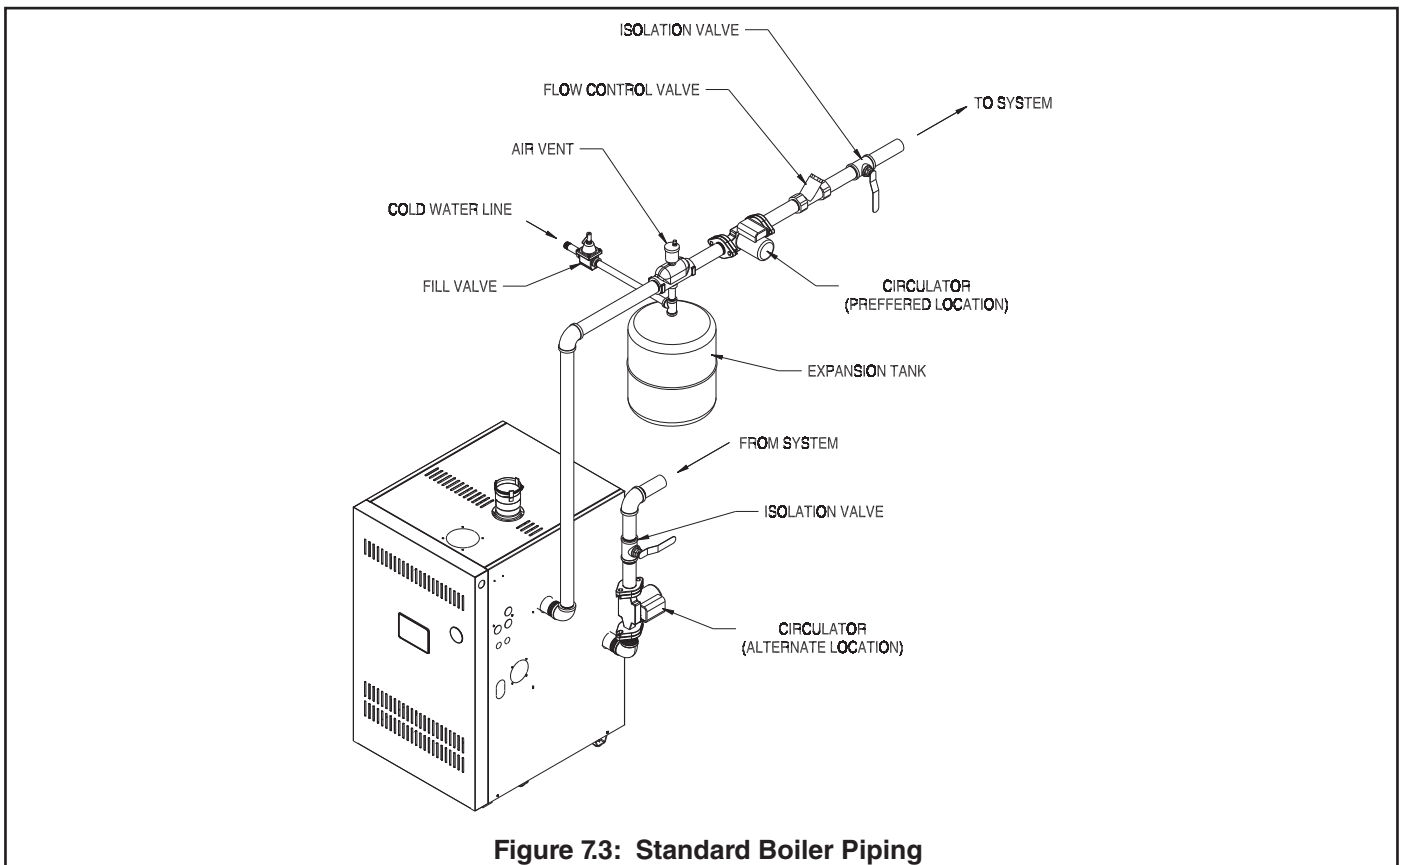

Figure 7.3: Standard Boiler Piping
Figure 7.3 shows typical boiler system connections on a single zone system. Additional information on hydronic system design may be found in the I=B=R Guide RHH published by the Air-Conditioning, Heating and Refrigeration Institute (AHRI). The components in this system and their purposes are as follows:
2. Circulator (Required) - The circulator and circulator flanges are shipped loose with the boiler. The ideal location for the circulator is in the supply piping, just downstream of the expansion tank, however installation in the return as shown in Figure 7.3 is usually acceptable.
10. Drain Valve - The drain valve is shipped in the boiler parts bag. Install it in the tee under the circulator as shown in Figure 7.3.